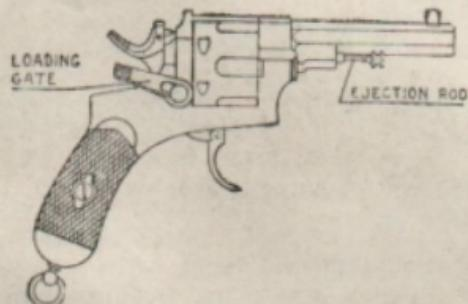

FIG. 1.—10.35 MM. REVOLVER 89
2. 10.35 mm. Revolver, Mod. 89--Bodeo. (See Fig. 1)